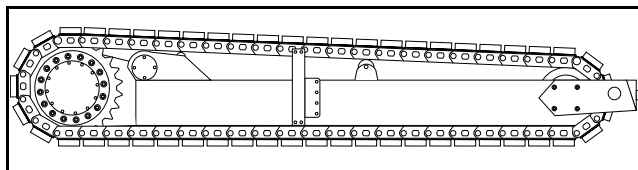

Figure 6 - 10 Install track pad
- 10) Once the master link is connected, apply Loctite to bolts and install track pad. Installing the track pad locks the master link preventing the track from separating. (Figure 6 - 10)